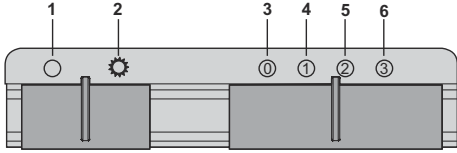

Fig. 13
1. ➤ Bring to this position to turn off the lamp (Fig. 13).
2. ➤ Bring to this position to turn on the lamp ( Fig. 13 ).
3. ➤ Bring to this position to turn off the lamp (Fig. 13).
4. ➤ Bring to this position when you want to operate the product in 1. speed ( Fig. 13 ).
5. ➤ Bring to this position when you want to operate the product in 2. speed ( Fig. 13 ).
6. ➤ Bring to this position when you want to operate the product in 3. speed ( Fig. 13 ).